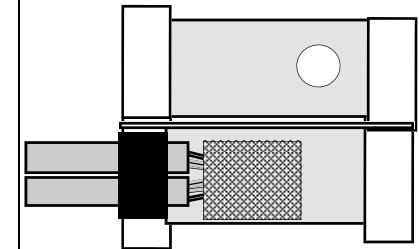

Figure 7
4. Position the splice in the center chamber of closure. (see figure 7)